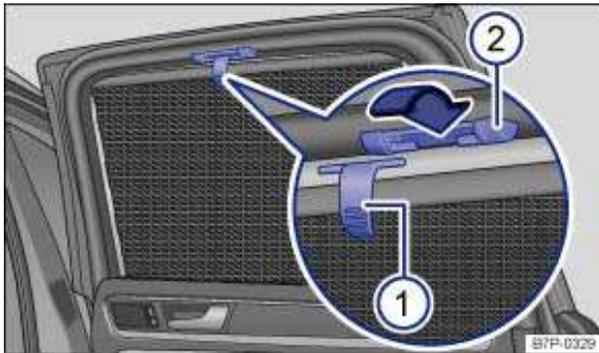

Fig. 88 Sun shade in the rear right window.
- Pull the sun shade all the way up by the projecting handle ⇒ fig. 88 \(1\).
- Insert each eye of the handle into the corresponding mount (2). Make sure that the extended sun shade is safely hooked into both mounts (2).